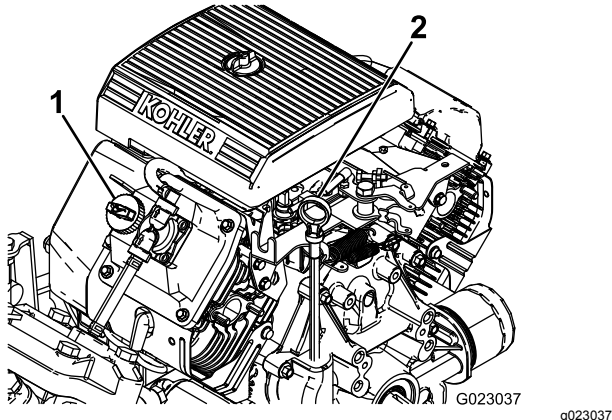

Figure 11
2. Remove the dipstick and wipe it with a clean rag (Figure 11).
4. If the oil level is low, remove the filler cap from the valve cover (Figure 11) and pour oil into the opening until the oil level is up to the Full mark on the dipstick; refer to Changing the Engine Oil (page 42) for the proper oil type and viscosity. Add the oil slowly and check the level often during this process. Do not overfill.